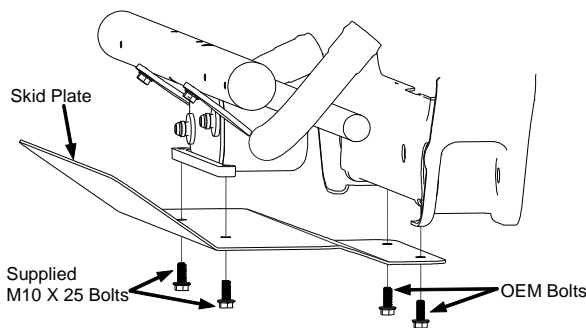

Figure 5.11
- ☐ Tighten the cooler mount bolts and install the supplied skid plate using supplied bolts and OEM bolts. The OEM bolts will go in the OEM skid plate mounting holes. The supplied bolts will line up with the oil cooler skid plate mount bar. (Figure 5.11)